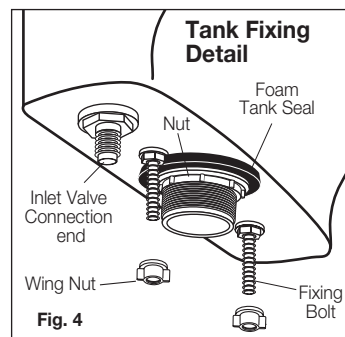

Fig. 4
- 1- Ensure the foam seal is fitted onto the tail piece on the underside of the tank, as detailed in **Fig. 4**.